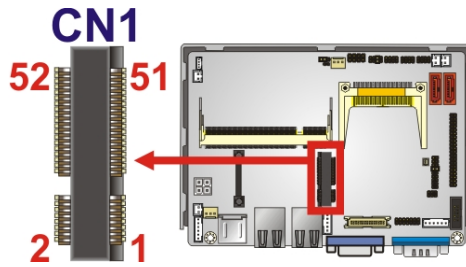

Figure 3-6: PCIe Mini Card Slot Location
- CN Location:** See **Figure 3-6**